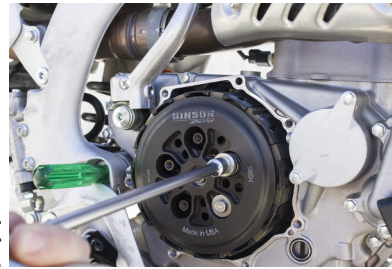

Figure 1
- Remove pressure plate and spring bolts. (see figure 1)